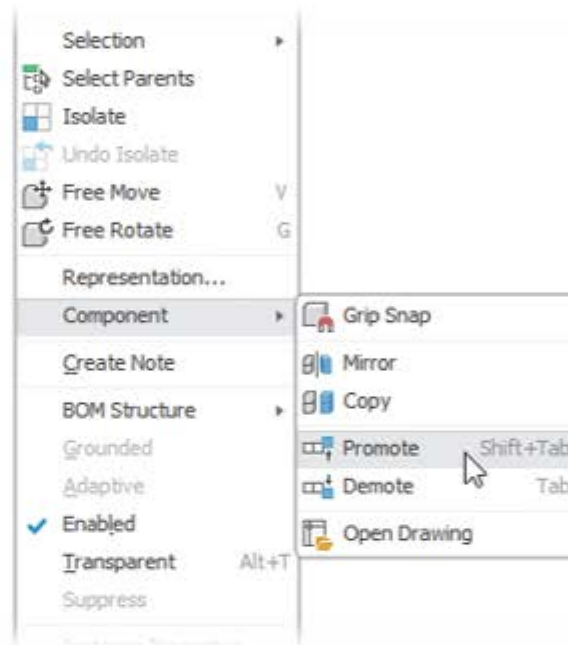

Figure 21–39
2. What is the effect of promoting a component (as shown in Figure 21–39) in an assembly?